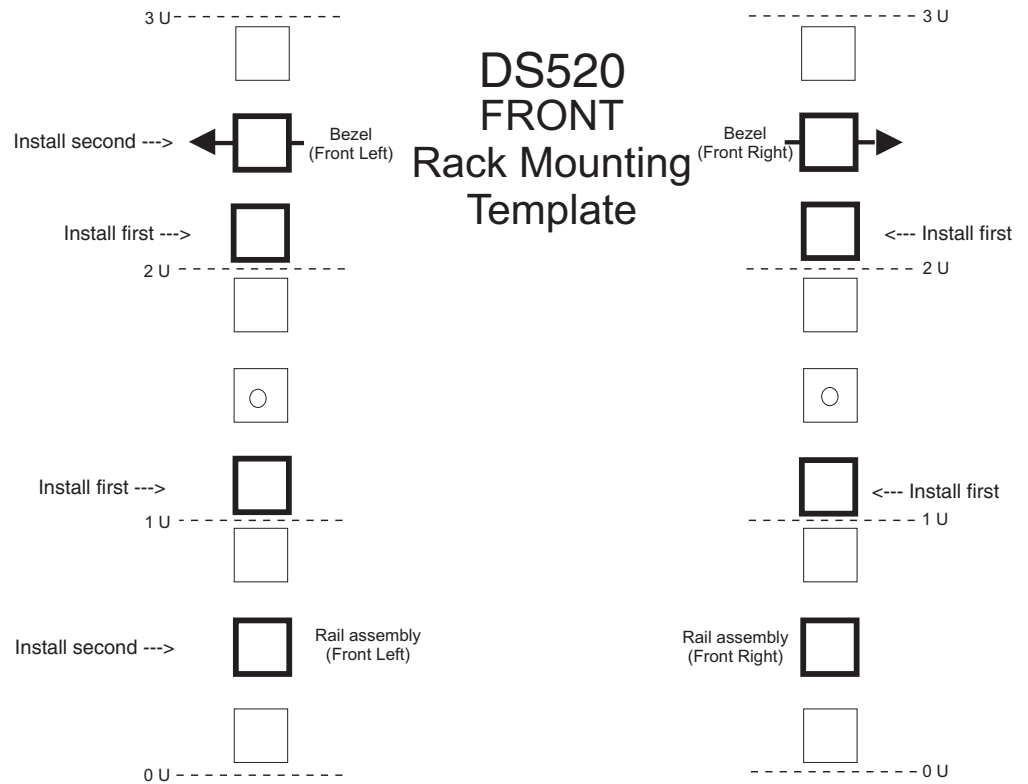
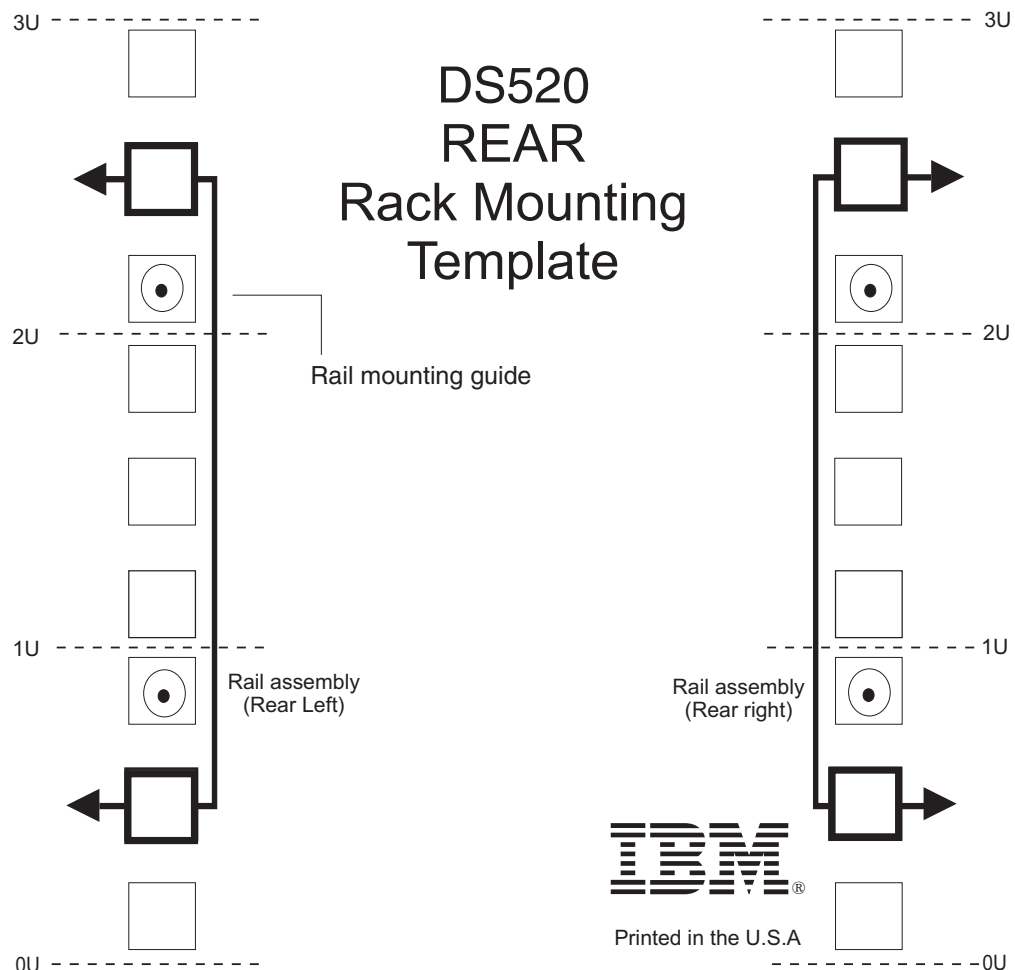

Figure 9. Front rack mounting template
Figure 10. Rear rack mounting template
Use the following templates (Figure 9 on page 23 and Figure 10 on page 24) to identify the proper locations for inserting M5 screws when mounting the support rails and EXP520 to a rack. The locations for the M5 screws are highlighted in the templates.
Attention: Use the rack mounting template provided in Figure 9 on page 23 and Figure 10 on page 24 to locate the proper rack mounting holes for installing the support rails into the rack.
6. Hold the back of the rail against the inside of the rack-mounting flange. Make sure the rail mounting guide pins are in the correct holes. See Figure 10 on page 24 for an illustration.
Note: Be sure to install the screws labeled *install first* in Figure 9 on page 23.